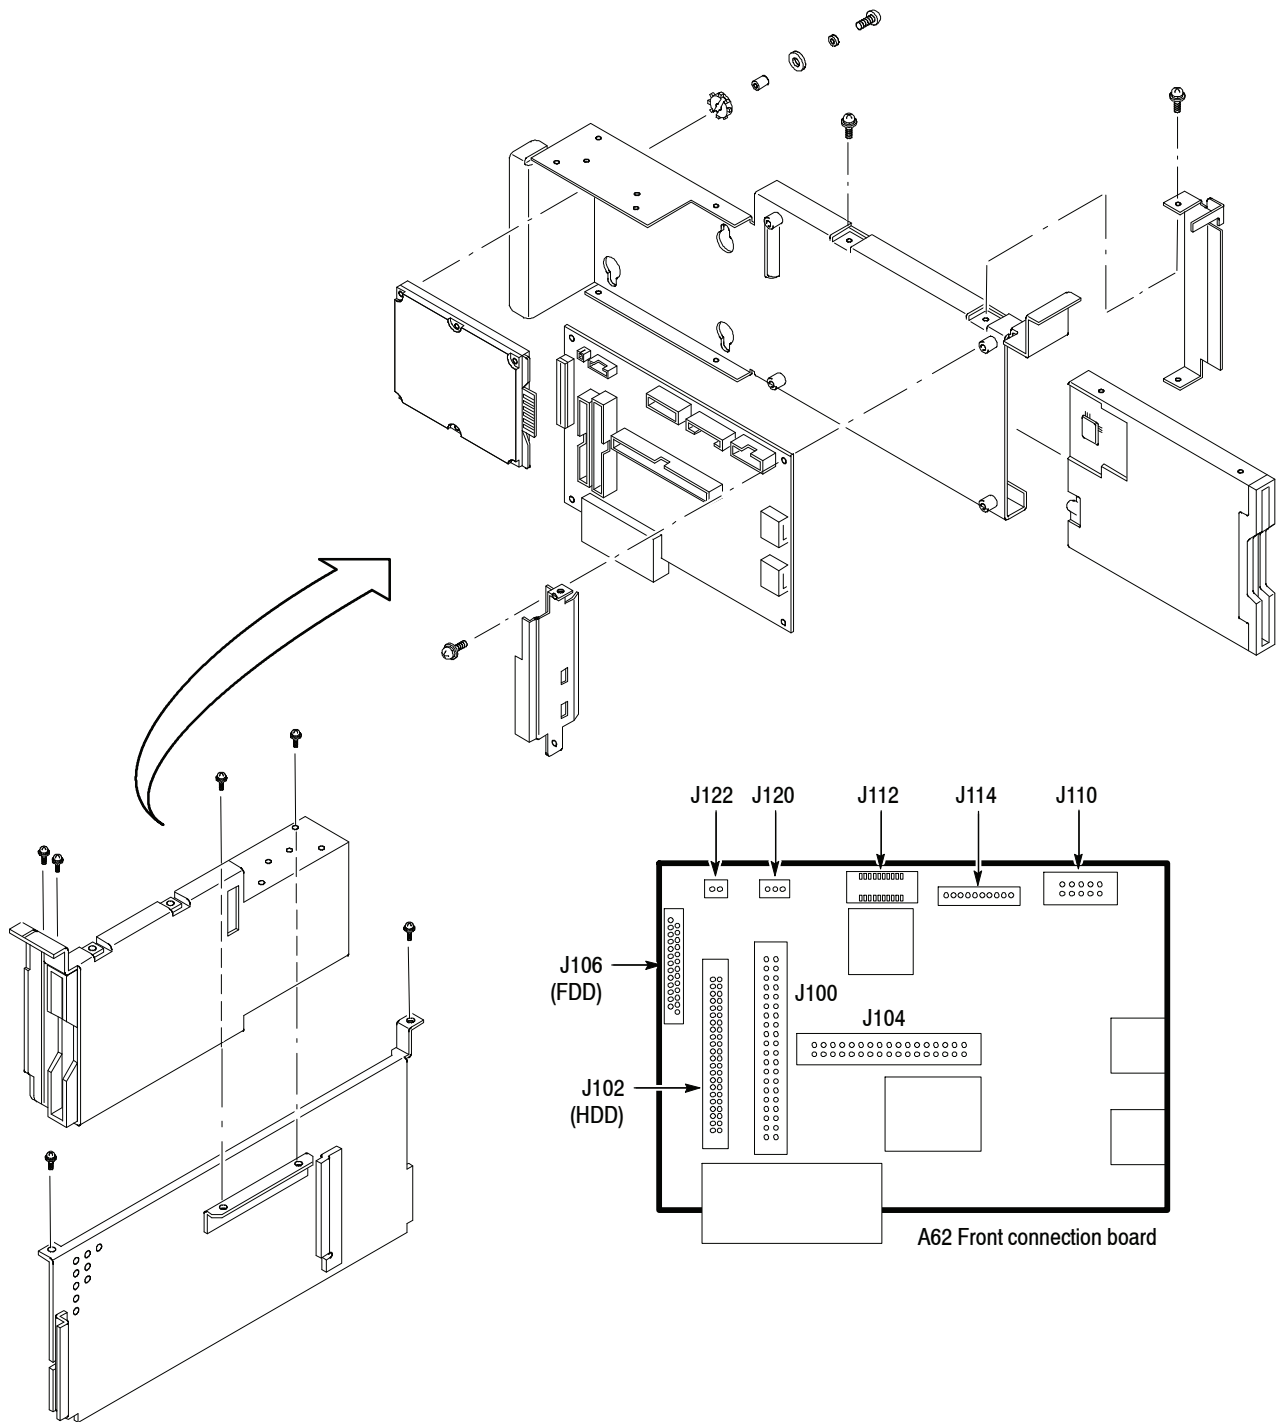

Figure 5-17: Disk module removal
3. *Orient the analyzer:* Set the analyzer so its bottom is down on the work surface and its left side is facing you.**4. *Remove the disk bracket:*** See Figure 5-17.
3. *Remove the floppy disk drive:* See Figure 5-17.
3. *Remove the A62 Front connection board:* See Figure 5-17.